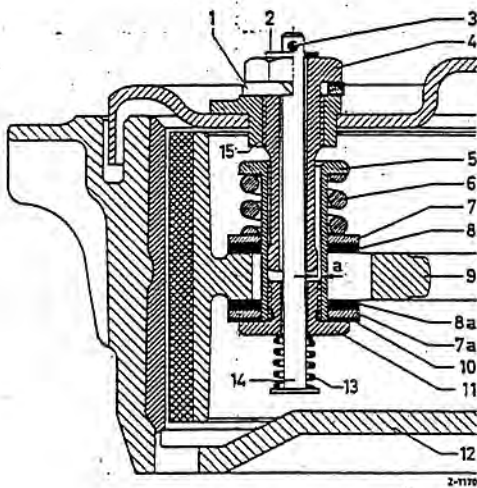

Fig. 42-8/5
4. Unscrew the bolt (4) of the automatic adjustment at the back of the brake anchor plate and remove together with the lock washer (1).
5. Screw out the stop screw (2) and remove it together with the lock washer (see Fig. 42-8/3).
**Note:** Since in the 2nd version of the brake shoe suspension the anchor pin stop (5) is located in the wheel brake cylinder, it is not necessary to screw out the hexagon screw (2) (Fig. 42-8/4).
- Bend the locking plate (6) upward and screw out the anchor pin (5) from the eye of the brake wheel cylinder (see Fig. 42-8/3).